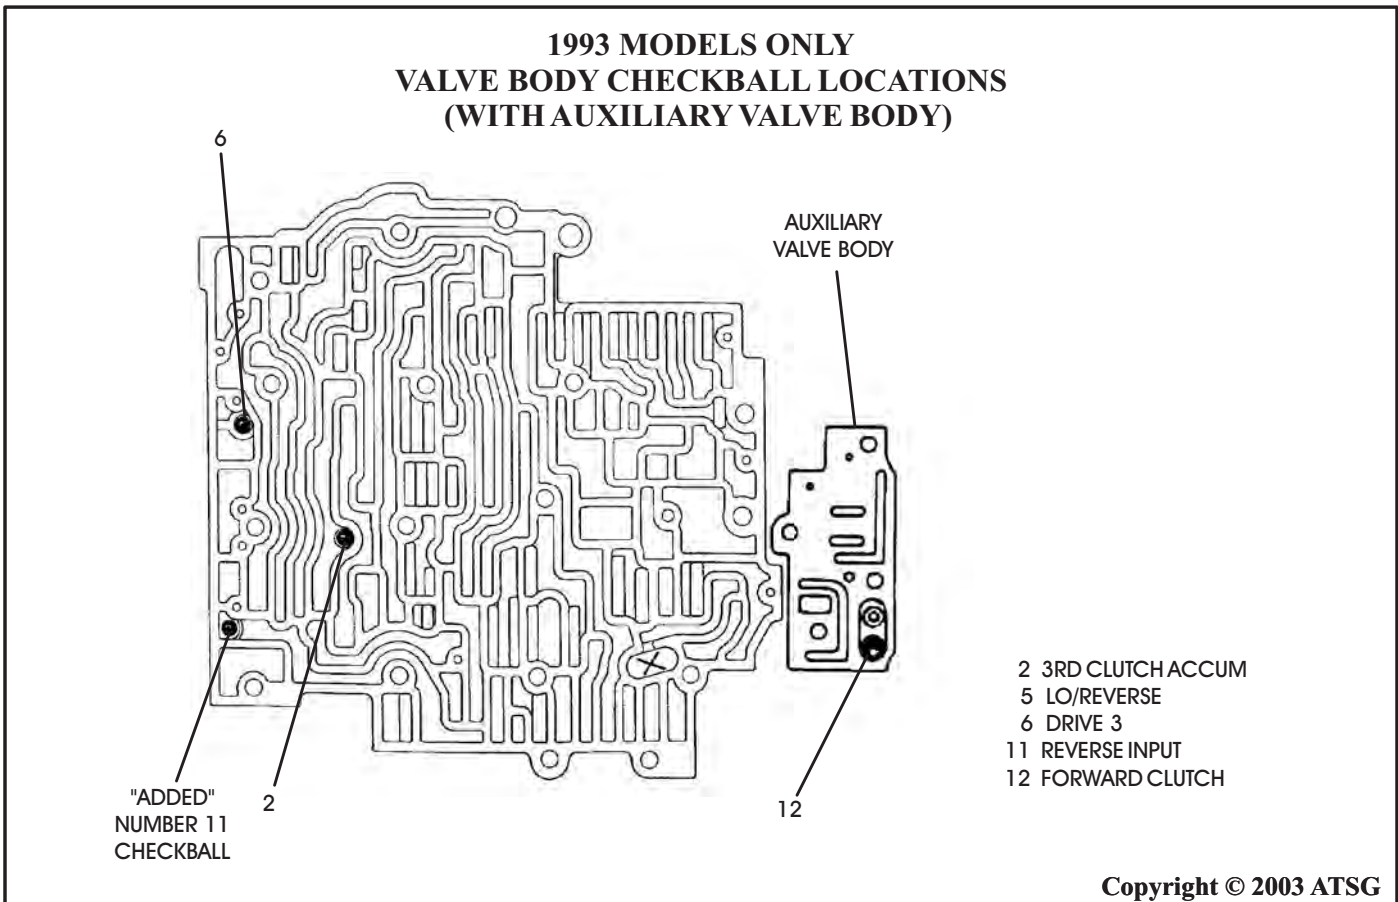

Figure 72
- (2) VALVE BODY CASTING - Changed with the addition of the number 11 checkball in the location shown in Figure 72. (*Not In The Bathtub*) This checkball was added to orifice feed oil to the reverse input clutch.